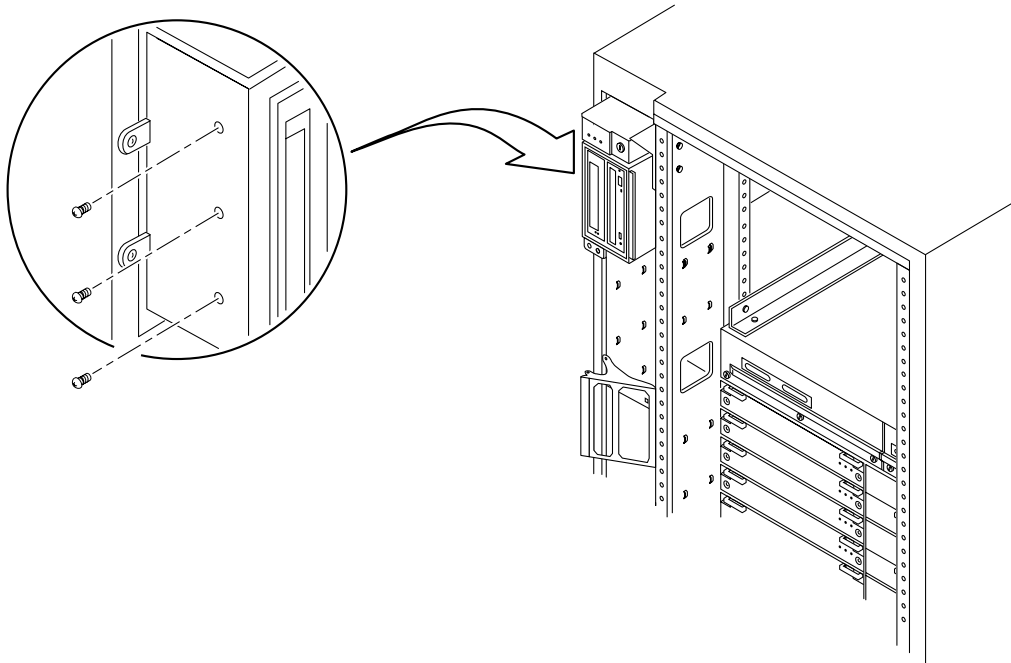

FIGURE 8-5 CD-ROM/Tape Drive Removal and Replacement
4. **Release the device enclosure from the media tray by removing three screws on the left side of the media tray (FIGURE 8-5).**